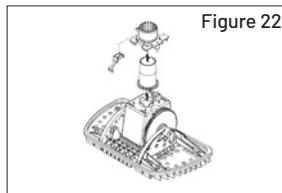

Figure 22
5. Squeeze the latching tabs and pull up on the Swivel Housing and Swivel. The assembly will come up, releasing the Swivel Sprocket. Squeeze the latching tabs to remove the Clutch Clip, (see Figure 22).